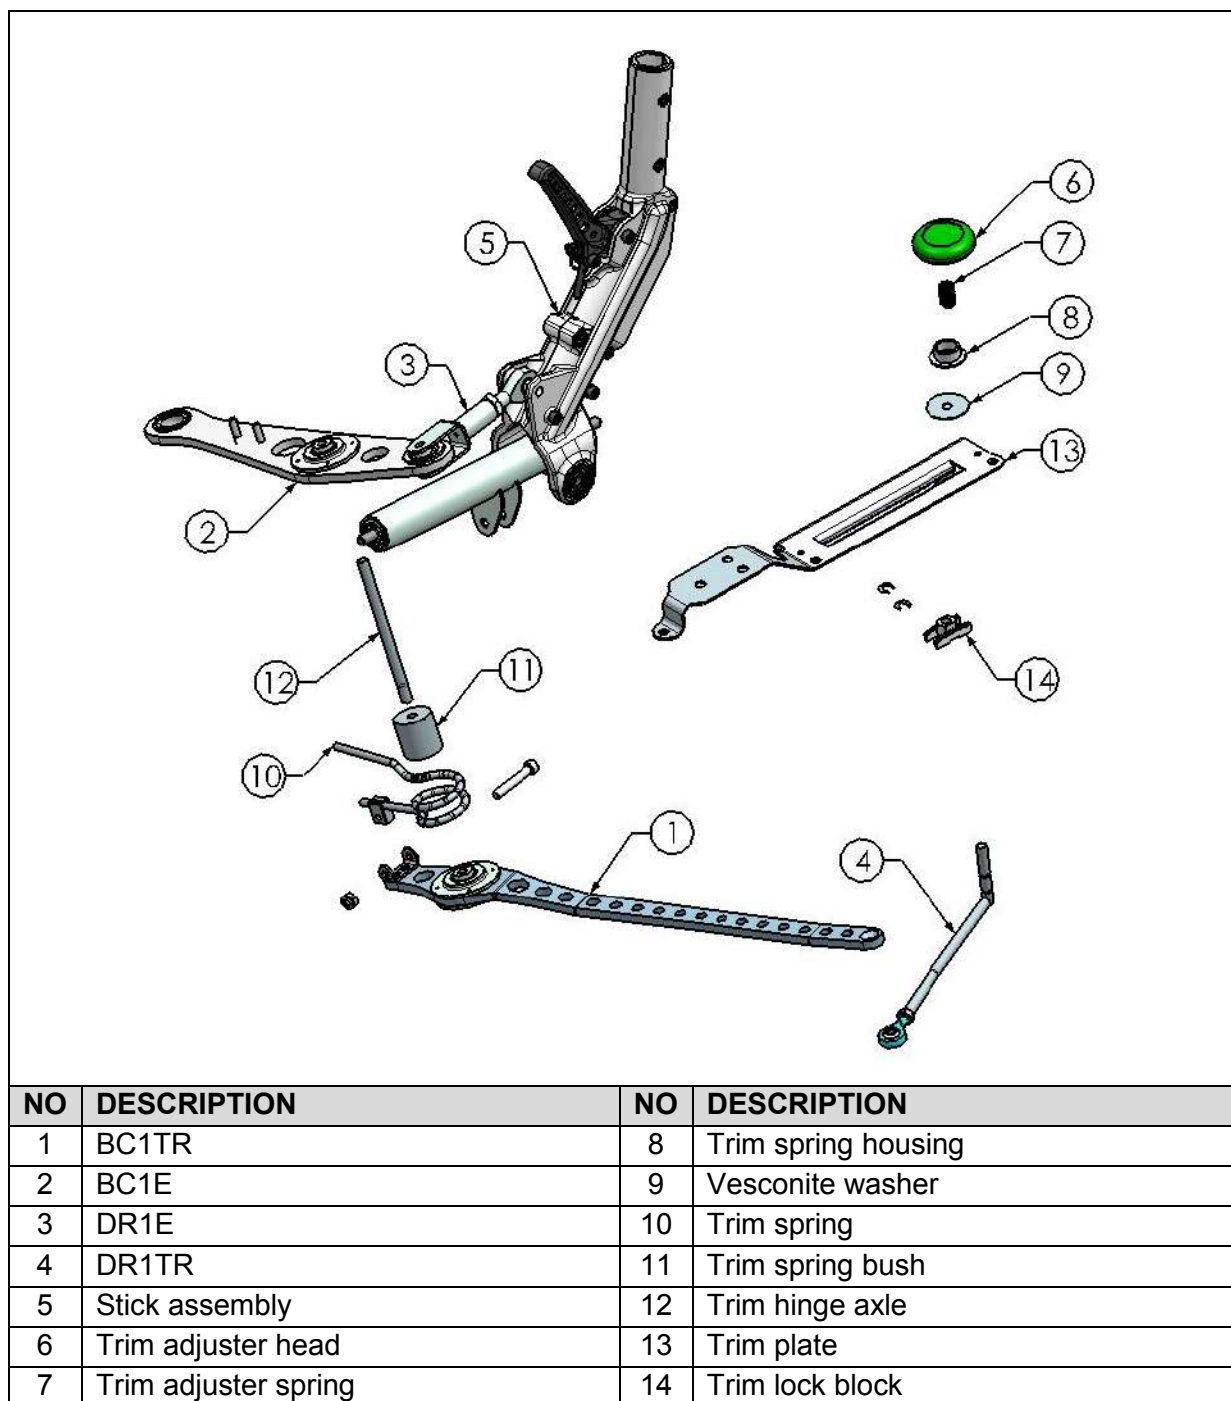

Figure 27-17: Elevator trim system breakdown
The trim system is fitted below the seat pan and comprises of a trim spring made of “piano wire”-spring steel. The trim bell crank is connected to the elevator bell crank with a spring, as indicated in (Figure 27-17, Item 10).
The trim is set by pressing the trim indicator (green knob), (Figure 27-17, Item 6) down and sliding it to the desired position. When the knob is released, the trim automatically locks into the set position.
4. Adjust the length of DR1TR (Figure 27-17, Item 4) until its rod end can be connected to BC1E (Figure 27-17, Item 2).
7. If the above specifications are not met use the adjustment block on BC1TR (Figure 27-17, Item 1) to correct the offset.
2. Adjust DR1E (Figure 27-17, Item 3) until the brake lever clears all switches on the instrument panel by 5 ± 1 mm in the most forward stick position.